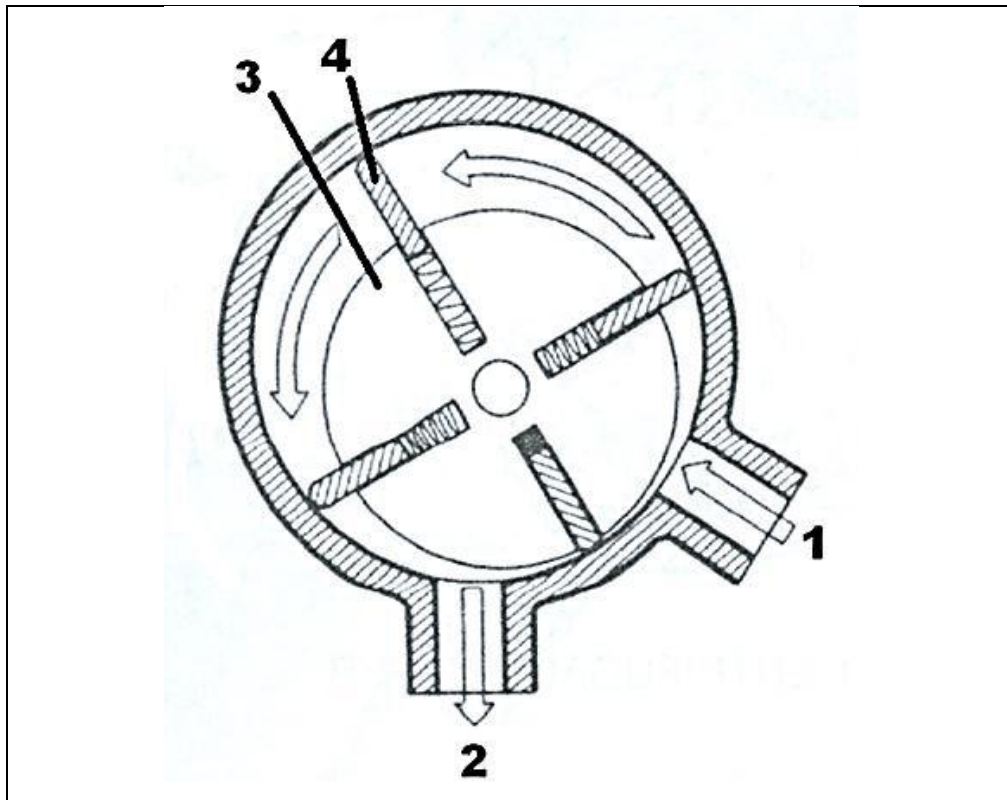

FIGURE 6.9
6.9 A sectional view of a vane pump is given. Label 1 – 4 in FIGURE 6.9.